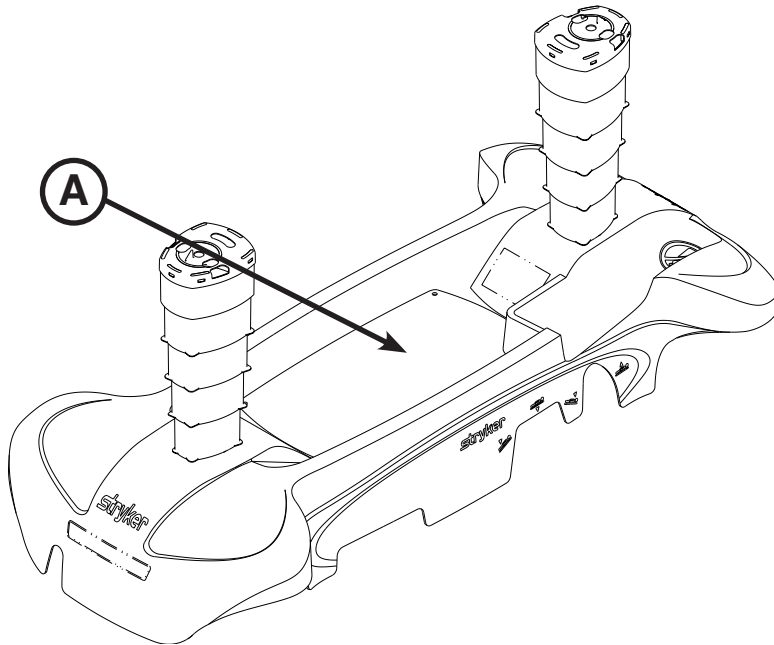

Figure 16: Base Hood Storage
You can store items in the base hood (A) as shown in Figure 16.